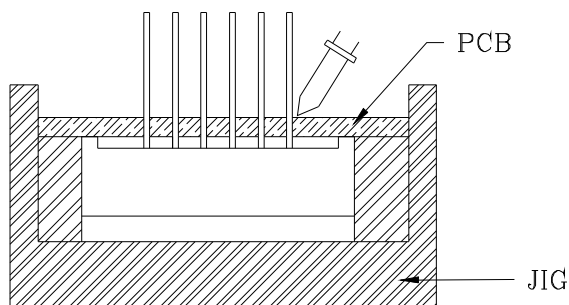

Fig.2
- 2) Similarly, when a jig is used to solder the Display to PC board, take care as much as possible to avoid steering the PIN (See Fig.2).